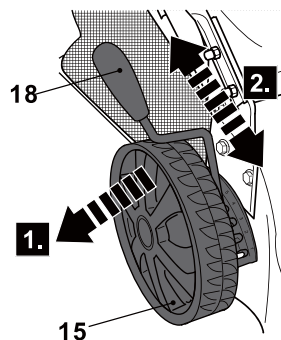

Fig. 16
1. Pull the lever (18) towards the wheel (15), then move it forward or backward to adjust the cutting height (Fig. 16).